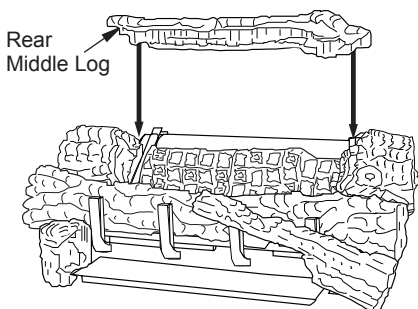

Figure 28 - Installing Rear Middle Log
7. The rear middle log (18" D-068, 24" & 30" D-042) should fit between the ramp log and the rear burner. The left and right middle logs have recessed areas for the rear middle log to sit into (See Figure 28). There may be a small gap between the rear middle log and the ramp log, this is normal. Be careful not to push the rear burner out of position while installing this log.